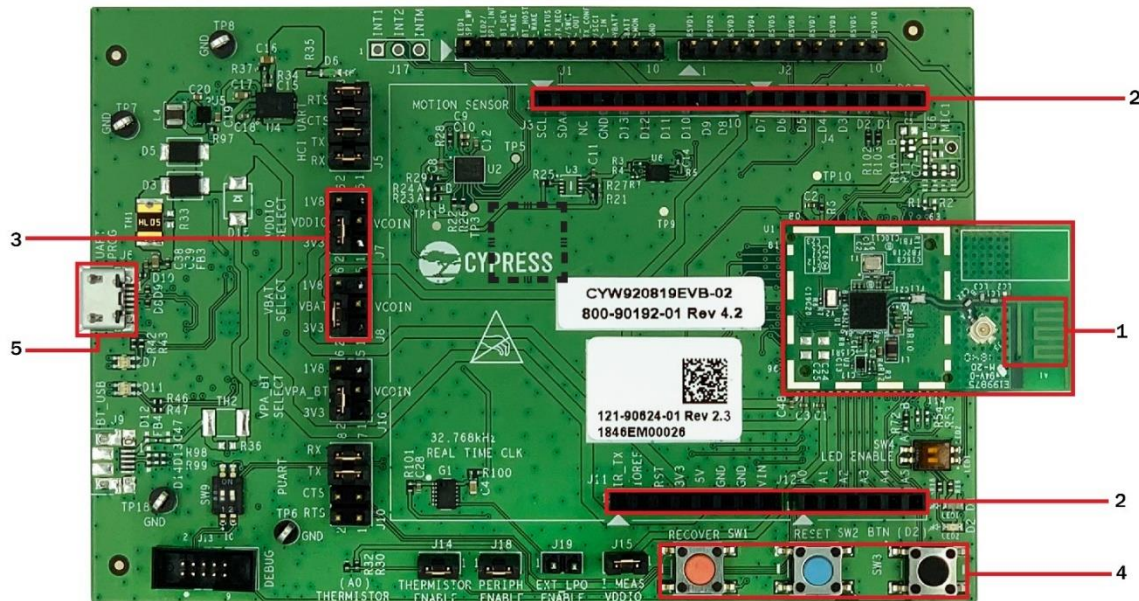

Figure 1-2. CYW920819EVB-02 Evaluation Board
Figure 1-2 shows CYW920819EVB-02 evaluation board with the following features:
1. Verify that all the jumpers are in default configuration as shown in Table 2-1 to Table 2-6, so that Peripheral UART is selected and can display embedded application trace messages. Figure 1-2 shows the default jumper locations.